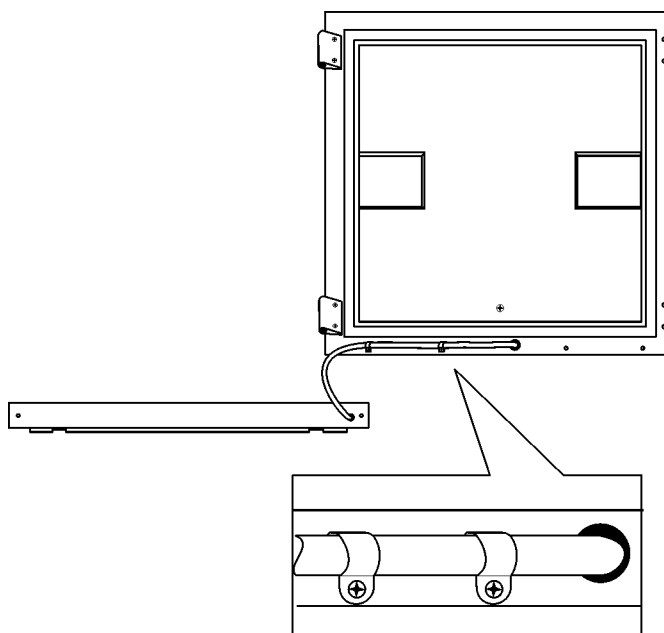

Figure 5-3. Rotate Kickplate
6. Rotate the kick plate and attach the door heater cable with the clips as shown in Figure 5-3. The insert in the illustration shows the proper positioning of the clips.